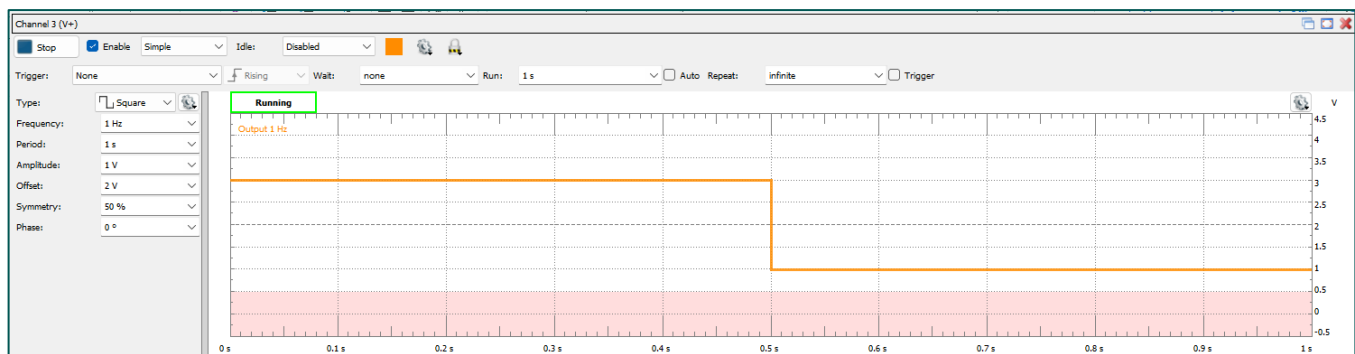

Figure 4b. Analog Discovery Studio – Channel 3 (V+) Output Signal Configuration
- **Channel 3 (V+)** → Blue LED branch (**Figure 4b**)